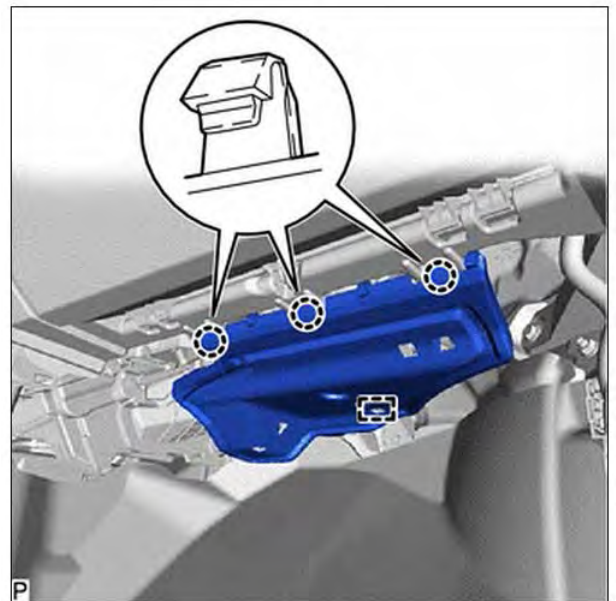

Figure 19
- (a) Disengage the 3 claws and remove the No. 2 instrument panel under cover sub-assembly (Figure 19).